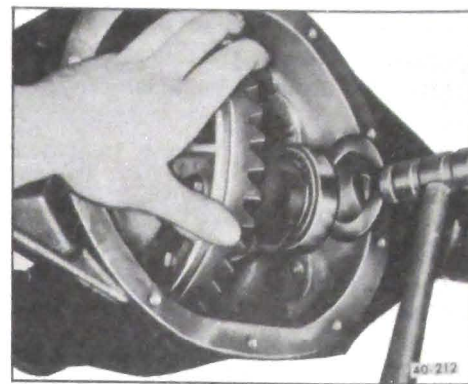

Figure 40-199 - Installing Side Bearing Shims
2. Place differential case and bearing assembly in position in carrier. Install a service spacer .160" between each bearing outer race and the carrier. Using a micrometer, measure the production cast iron shims initially removed from carrier and record the measurements. Add the thickness difference (in shims) between the service spacer (.160") and the original shim to the respective end of the case between the bearing outer race and the cast service spacer by using a soft faced hammer. See Figure 40-199. Install side bearing caps, as previously marked and tighten bolts to 55 lb.ft. before